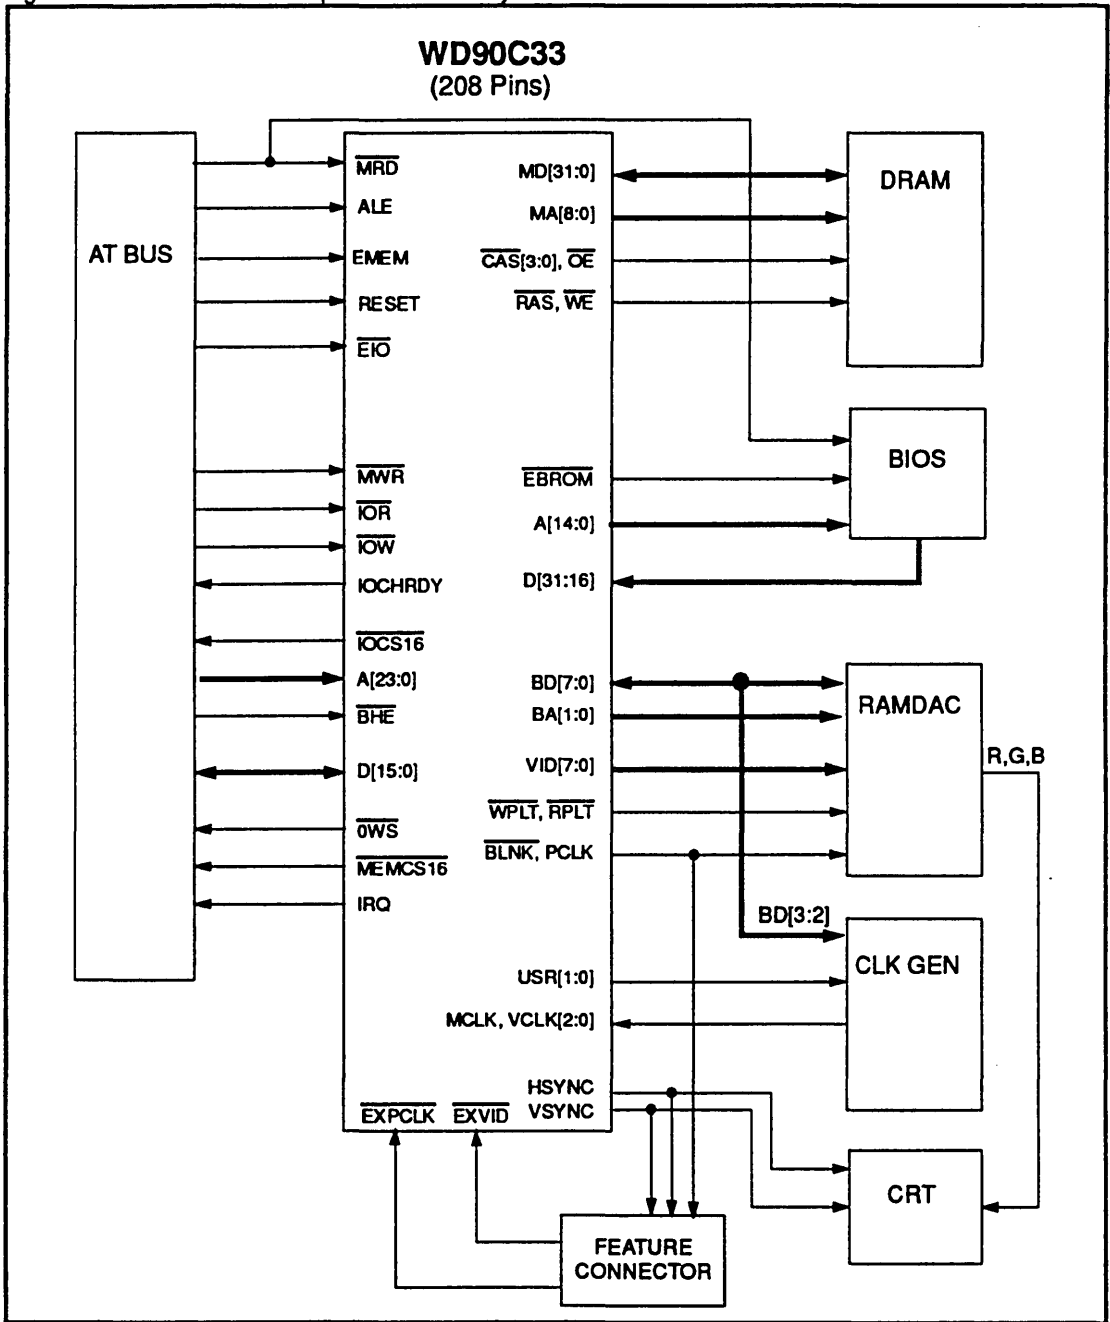

FIGURE 3-4. AT COMPATIBLE BUS SUBSYSTEM
- Figure 3-4. AT Compatible I Bus Subsystem
The WD90C33 also operates in the AT Bus architecture configuration (see Figure 3-4). The selection of the bus architecture determines the operating mode, and is selected by the state of Configuration Register Bit CNF(2) during power-
Figure 3-4 shows the AT Compatible Bus Subsystem.
The WD90C33 uses memory data connector pins to configure an internal configuration register during power-on or system reset as described in Section 9. Configuration Bit CNF(2) determines whether or not the WD90C33 will operate in AT Mode as shown in Figure 3-4. Configuration Bit CNF(11) determines whether the WD90C33 will operate in the Local Bus or AT bus mode.